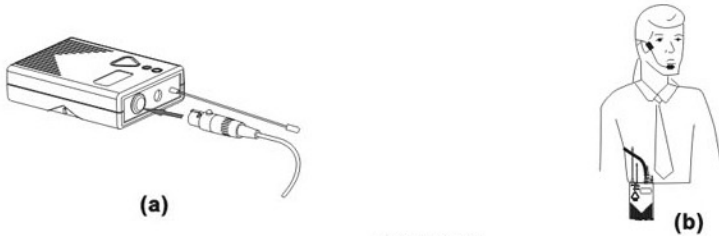

FIGURE 9
2. Headset Microphone connection(Figure 9).